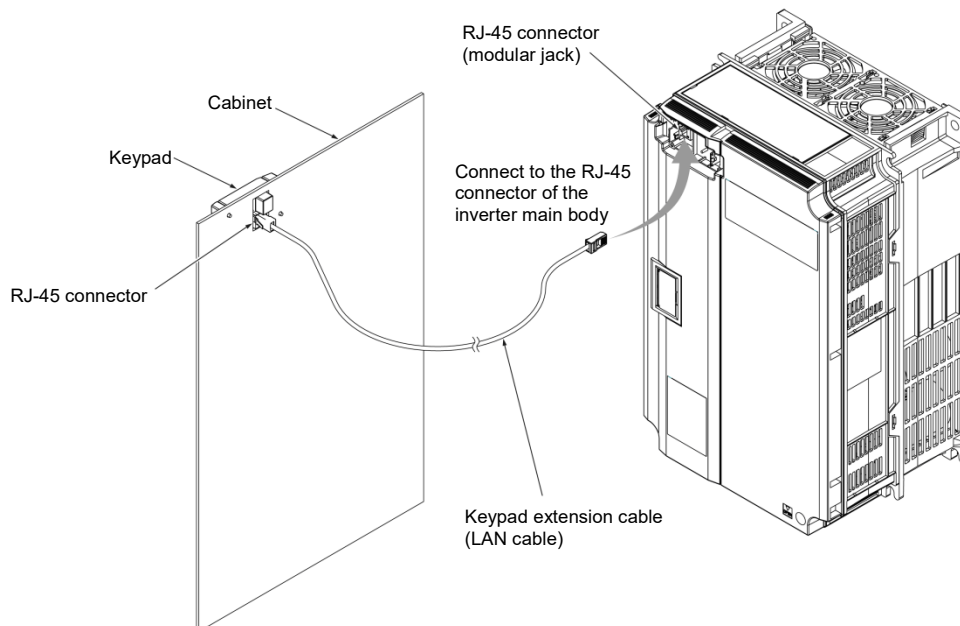

Figure 2.3-8 Connection of the Keypad Extension Cable (LAN Cable) between the Keypad and the Inverter Main Body
- (5) Connect the Keypad extension cable to the keypad RJ-45 connector and the inverter main body RJ-45 connector (modular jack). (Refer to Figure 2.3-8.)